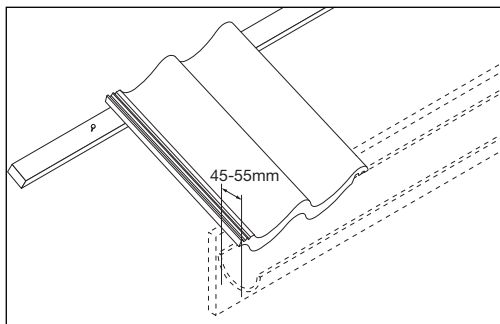

Fig 2 – Measuring tile overhang into gutter
- 2 Tack a short length of batten into position and locate tile over fascia so it hangs the correct amount into centre of gutter (45 to 55mm for a 100mm gutter) (Fig 2).